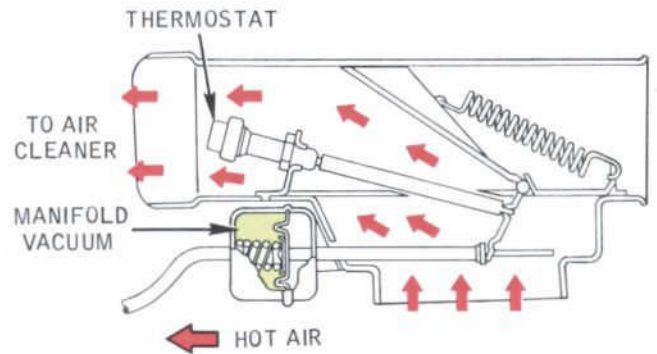

Fig. 18 — Duct and Valve Assembly in Heat-On Position — Warm-Up
During the engine warm-up period when the air temperature entering the air duct is less than 100 degrees F., the thermostat is in the *retracted position* and the valve plate is held in the *heat-on position* (up) by the valve plate spring, thus shutting off the air from the engine compartment. All air is then drawn from the shroud around the exhaust manifold (Fig. 18).
1. With the duct assembly installed on the vehicle, cold engine, and ambient temperature in the engine compartment of less than 100 degrees F., the valve plate should be in the *heat-on position* (Fig. 18).
5. Raise the water temperature to 100 degrees F., allow five minutes to stabilize the temperature, and observe the valve plate position. The valve plate should be in the *heat-on position* (Fig. 18).